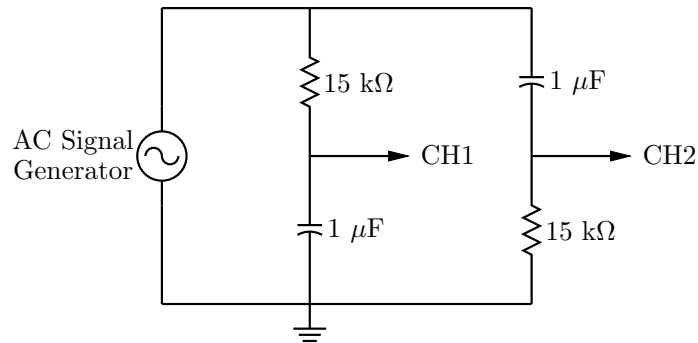

Figure 3:  $\pi/2$  radian phase shifting circuit
- i. Connect the circuit in Figure 3. Adjust the AC signal generator to 100 Hz, 8Vpp. From Figure 3, connect output from  $1 \mu\text{F}$  to CH1 and output from  $15 \text{ k}\Omega$  to CH2 of the oscilloscope. Press the AUTO button for a quick setting of V/div and sec/div. To see both output signals, make sure that both CH1 and CH2 buttons are pressed. Draw these two signals in the graph below with the information of V/div and sec/div: